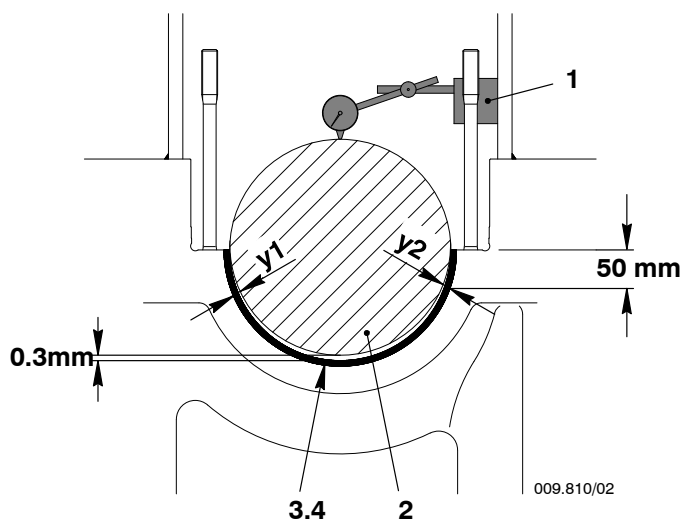

Fig. 13
- 1) Record the values of the lateral clearances ( $y_1$  and  $y_2$ , Fig.13) between the crankshaft (2) and the bottom main bearing shell (3,4) at approximately 50 mm below the bearing.
- 2) Install the dial gauge (1) above the crankshaft (2) as shown
- 3) Set the dial gauge (1) to zero.
- 4) Operate the HP oil pump (94931) to lift the crankshaft (2) to 0.3 mm.
- a) Install the hydraulic rams (94936, Fig.13) in a position where the lateral bearing clearance is smaller.
- b) Operate the HP oil pump (94931). To lift the crankshaft (1) to 0.3 mm.